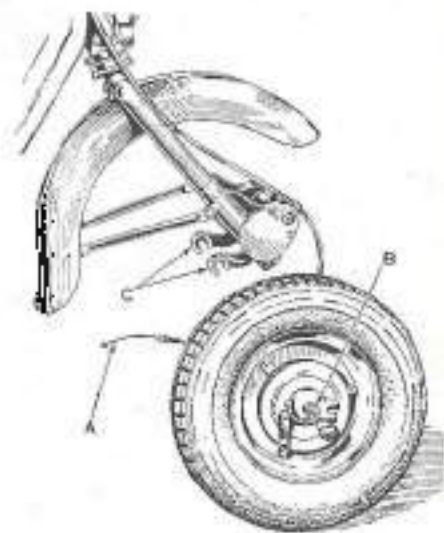
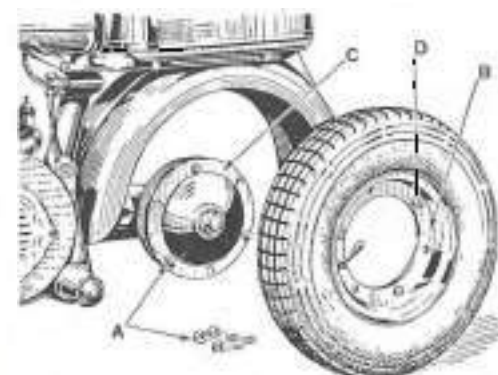
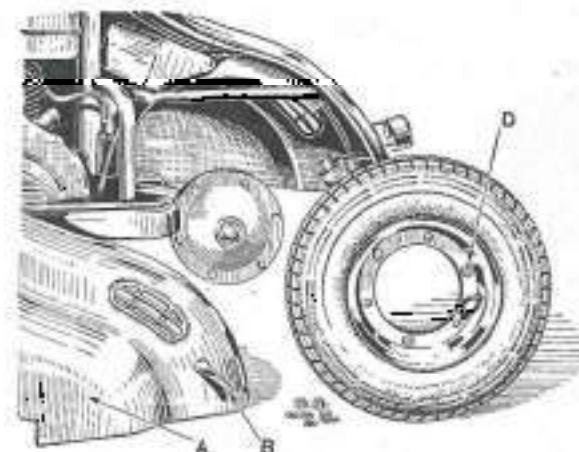

Fig. 7
Fig. 8
Fig. 9
To remove the front wheel, on both models (fig. 7) first disconnect the brake control cable (A), then loosen the two cap nuts (B) fastening the wheel to the trailing links (C); place the washers under the nuts, located within the trailing links. To dismantle the rear wheel on the model d (fig. 8) loosen the three cap nuts (A) fixing the rim (B) to the hub (C); before dismantling the wheel on the model b (fig. 9) remove the left side panel (A) loosening the fastener (B).